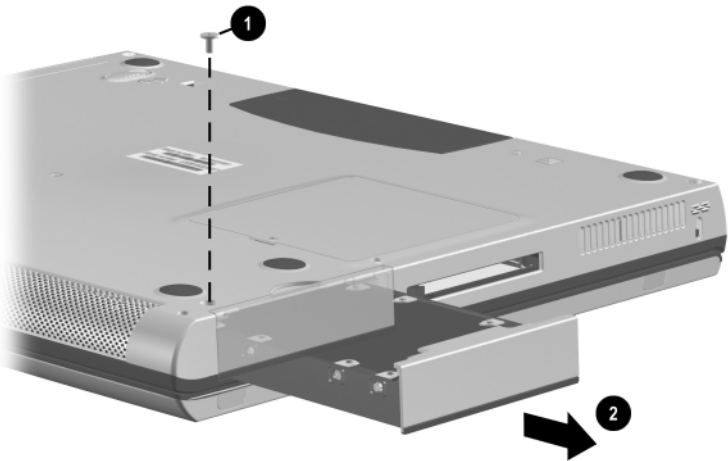

Figure 5-3. Removing the Hard Drive
- b. Remove the silver M3 × 8 screw ❶ (Figure 5-3).
- c. Use a thin flat tool (screwdriver, case utility tool) to slide the front edge of the hard drive sleeve to the right ❷.